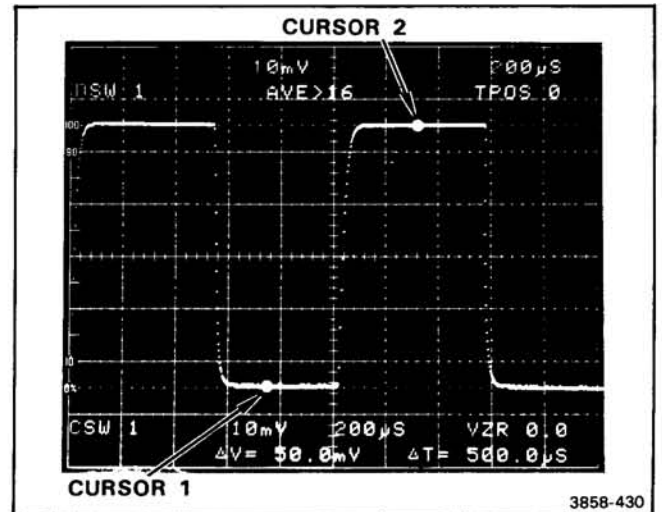

Figure 4-2. CURSORS 1 and 2 used to measure p-p voltage.
- Set CURSORS to Δ ON and position CURSORS 1 and 2 as shown in Figure 4-2.